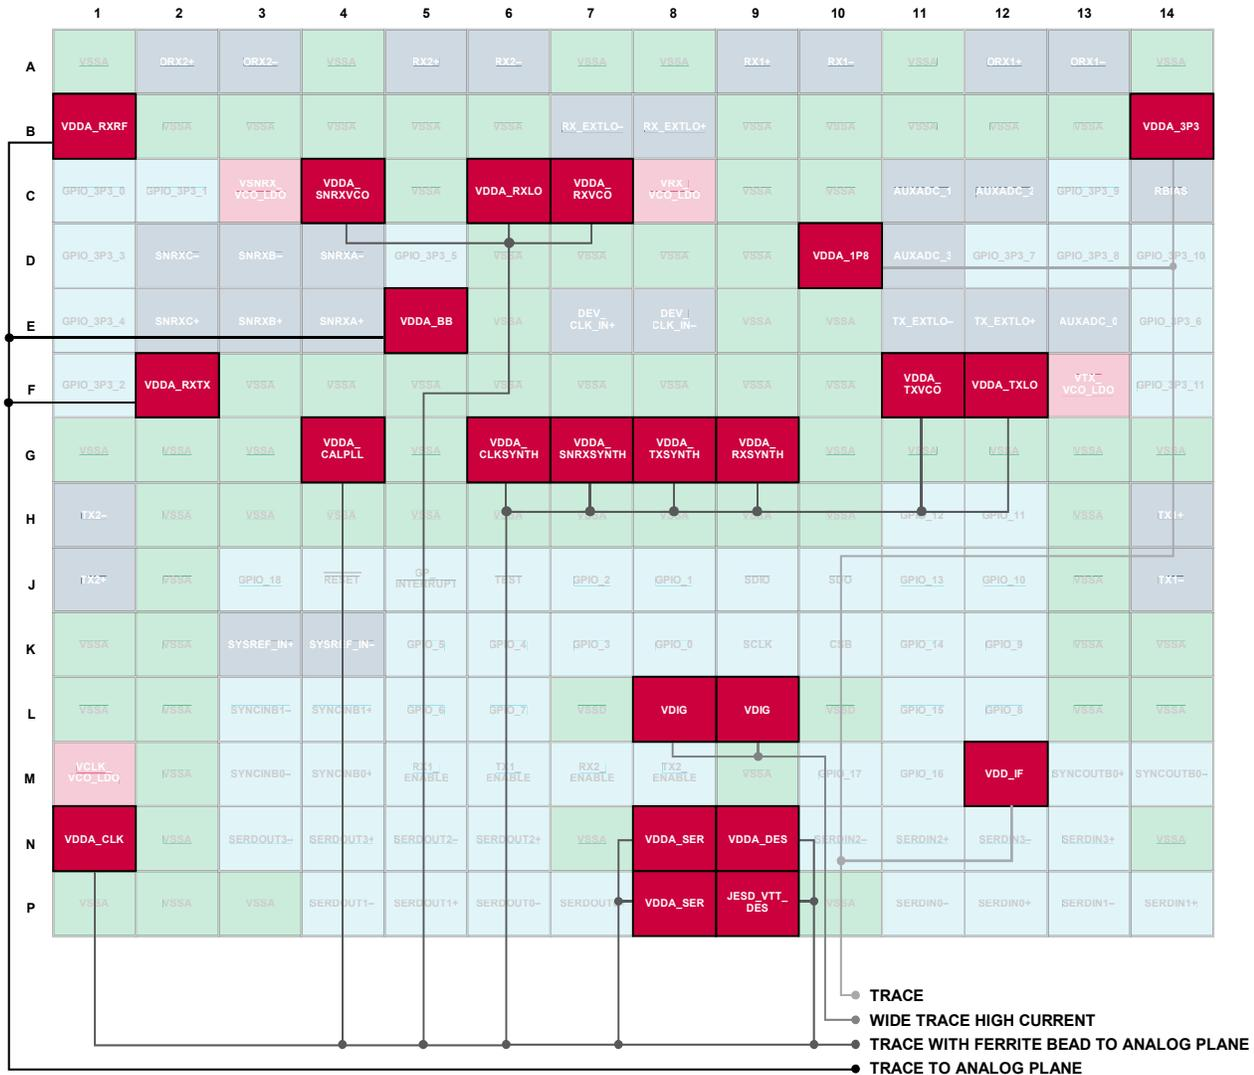
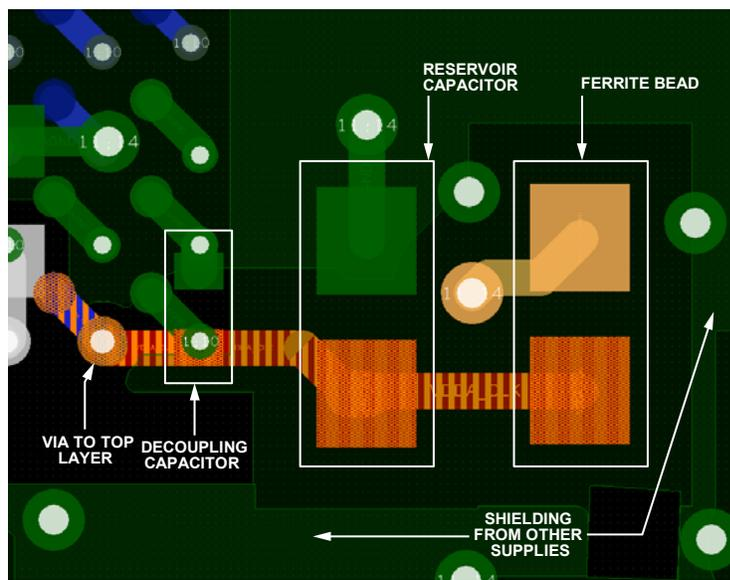

Figure 159. Power Supply Domains with Connection Guidelines
Figure 160. Placement Example for Ferrite Bead, Reservoir Capacitor, and Decoupling Capacitor on the ADRV9371-N/PCBZ Evaluation Card
For those domains shown in Figure 159 that are powered through a ferrite bead (FB), place the ferrite beads near the supply pins. It is recommended to space the ferrite beads to ensure their electric fields do not influence each other. Figure 160 shows an example of how to place the ferrite beads, reservoir capacitors, and decoupling capacitors. The ferrite bead must supply a trace with a reservoir capacitor connected to it. It is recommended to shield this trace with ground and to provide power to the input power ball. Place a  $100\ \text{nF}$  capacitor near the power supply ball with the ground side of the bypass capacitor placed so that ground currents flow away from other power balls and their bypass capacitors.